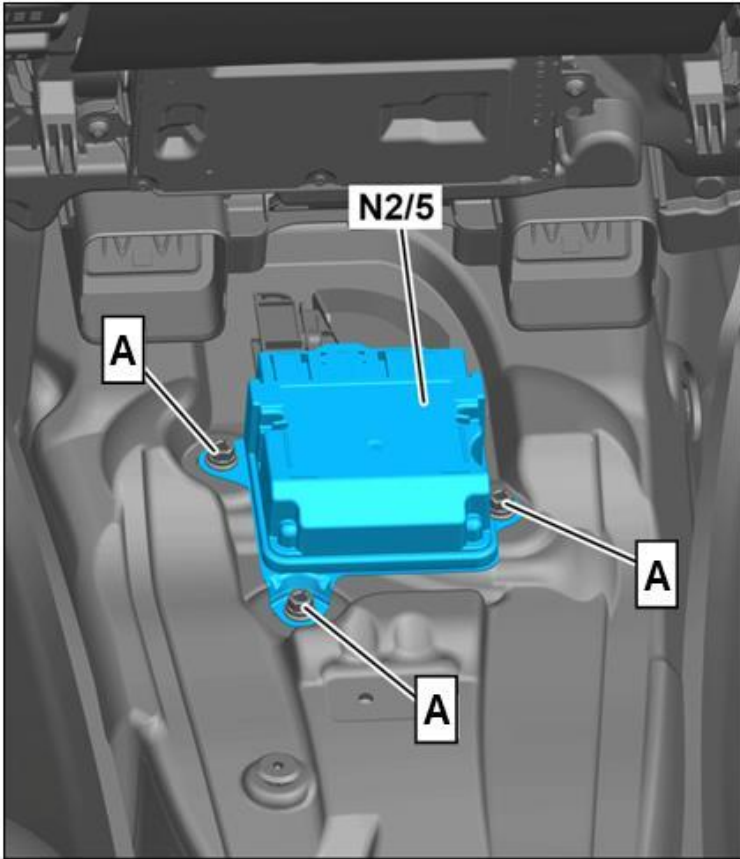

Figure 1
1. Expose restraint system control unit until the three bolting points (**A, figure 1**) can be accessed.
1. Remove 3 nuts (**A, figure 1**) and check thread at threaded studs including the nuts.